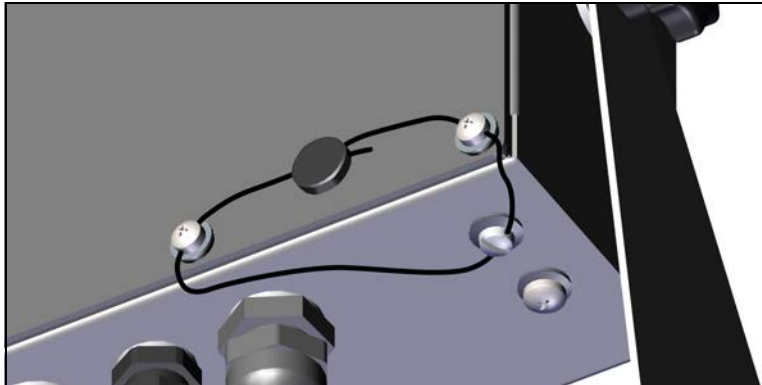

Figure 2-10. Sealing the Indicator – No Access
3. Navigate the sealing wire through the fillister head screws on the backplate and the fillister head screw at the bottom of the enclosure, as shown in Figure 2-10.